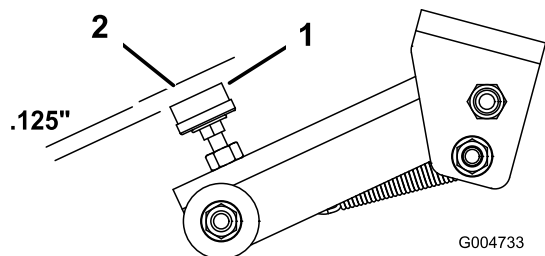

Figure 74
4. Clearance between adjustment screw rubber (Figure 74) cushion and deck latch should be .125 inch. If an adjustment is required, loosen nut on adjustment screw, adjust screw until required clearance is attained and tighten nut.